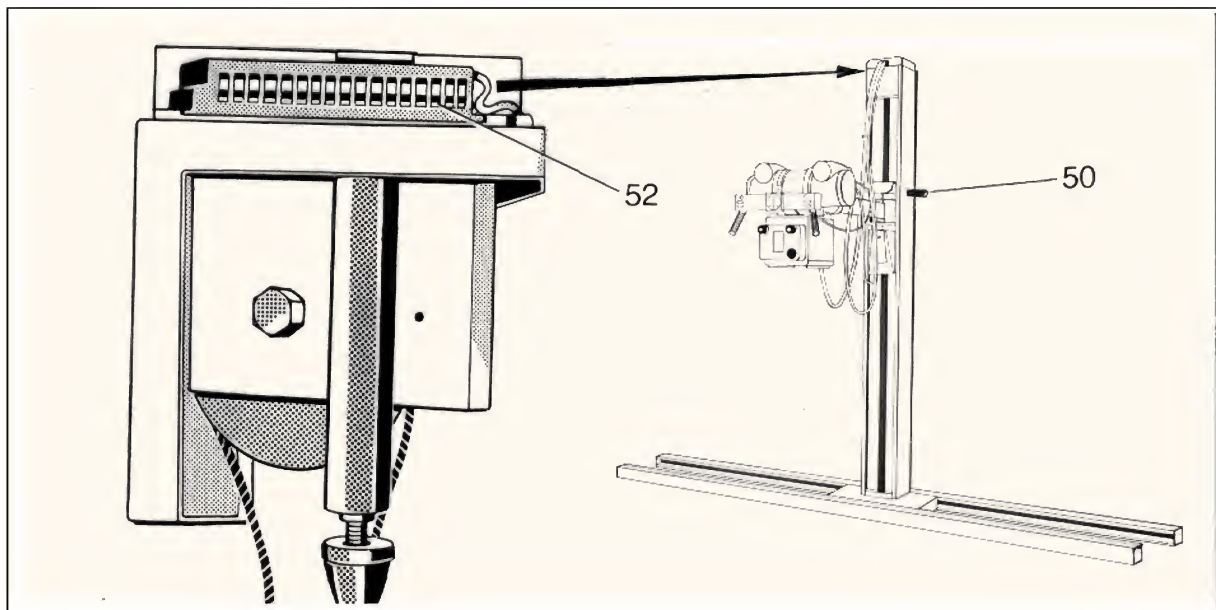

Fig. 34
**B** To exchange a pulley of vertical carriage follow the instructions below: Drive weight box all up to the top. Remove plastic from lateral walls of stand. Introduce round steel (supplied with installation material)(Fig. 34/item 50).
Lower weight box until it stops at round steel (item 50). Dismount tube assembly from tube support arm. Remove cap from column top and disconnect leads from terminal strip (Fig.34/item 52). Lift vertical carriage by 400 mm. Take off screws of column top (Fig. 34/item 53) and remove top. Drive up vertical carriage and loosen cable from brake pivot. Now the vertical carriage can be pulled all the way out. Replace bearings (rollers). To drive in vertical carriage again, reinstall cable and pull upward until it stops to loosen brake for driving in. Mount head part with guide pulley again. Lift vertical carriage by a few cms and instantaneously loosen brake by pulling cable upward. Slowly lower carriage until it hangs at the cable. Clamp cable and install cap. Mount tube-collimator assembly to tube support arm. Remove round steel and install plastic cap.
lateral walls Drive weight box up to the top. Remove plastic caps from of stand. Introduce round steel (supplied with installation material)(Fig. 34/item 50). Drive weight box until it stops at round steel. Lift vertical carriage by a few cms. Release: Vertical carriage must hold by itself. Lift vertical carriage again and instantaneously loosen safety brake by pulling at rope. Then slowly lower vertical carriage until cable is tight.